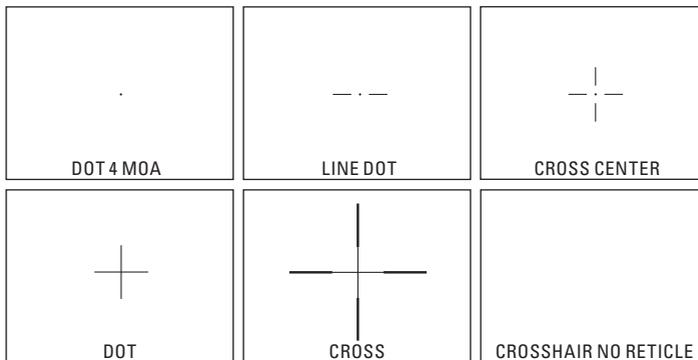

FIGURE 3-22. RETICLE PATTERNS
Push and hold button (4) to select from a choice of reticle patterns: "Dot 4 MOA," "Line Dot," "Cross Center Dot," "Cross," "Crosshair" (Figure 3-22).